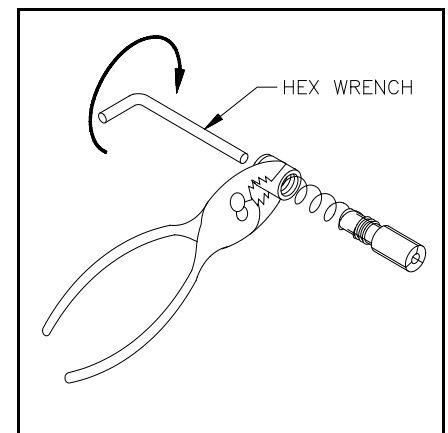

Figure 2.
- 2.4 Remove the master collet and the special collet. The pop-out spring, stop, and stop lock screw will be attached to the special collet. See Figure 2.